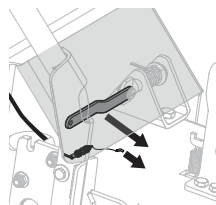

Figure 10
- Reaching between front mounting bracket assembly (689-02459) and plow assembly (689-02100), draw cable and lock pin arm through curved slot. See Figure 10.